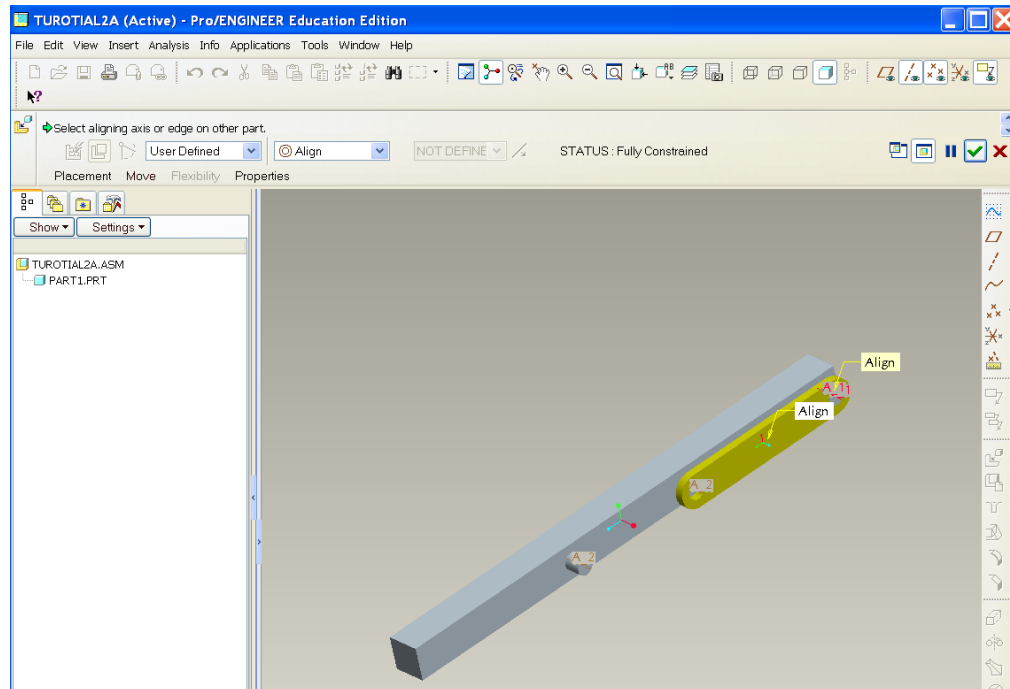

Figure 4
- e) Choose Surface F8 on part1 and surface F6 on part2 for alignment as shown in figure 4 and click .